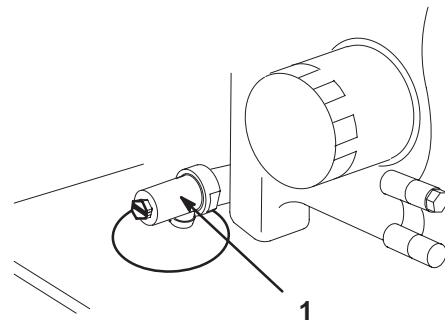

Figure 39
3. Place a pan below the oil drain. Use either a flat screw driver, 3/8" wrench or 10mm wrench to open valve (Fig. 39).
4. Rotate valve end clockwise to close valve. Rotate valve end counterclockwise to open valve (Fig. 39).
5. When oil has drained completely, close the drain valve (Fig. 39).